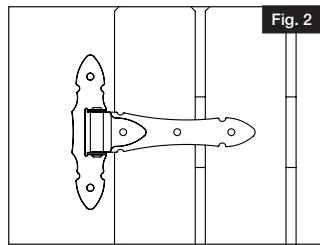

Fig. 2
- a. Align the hinge with the crossing support rail on the back of the gate so the screws will engage the rail (Fig. 2).